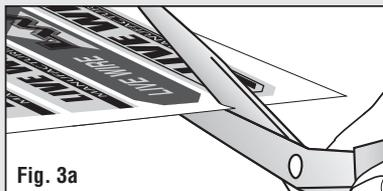

Fig. 3a
- Cut out desired Decal, leaving a slight edge (Fig. 3a). Grasp edge of Decal with tweezers and avoid handling the back.